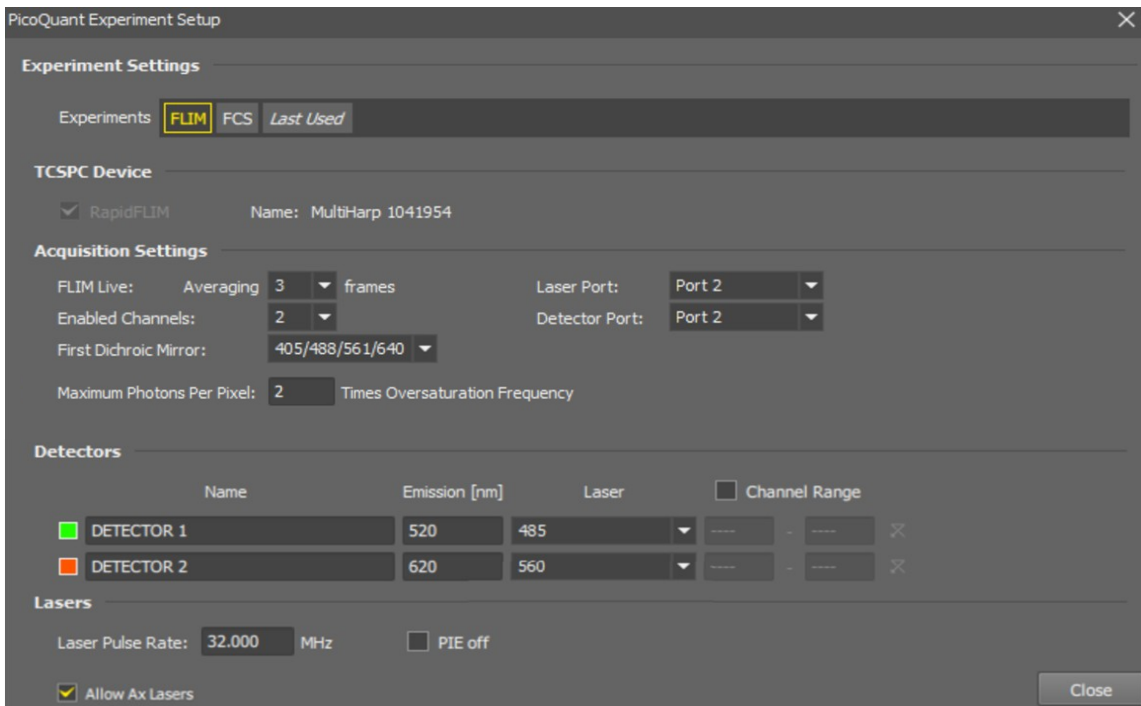

Fig. 3.3 Experiment Setup window
In the **Experimental Setup** several settings can be set (Fig. 3.3):
It is possible to select or deselect the lasers by clicking on one of the Laser wavelength buttons. To set the **Pulse Mode (PIE on/off)** and change the **Pulse Rate** open the experimental setup window (see Fig. 3.3).
In standard setting PIE is on. In this case, lasers of different wavelengths are pulsing not at the same time but one after another. By selecting the desired laser wavelength for each detector (e.g. 485 nm for DETECTOR 1, compare Fig. 3.3), cross talk between channels can be minimized. Only the fluorescence detected in a specific detector channel is displayed which is generated by the selected laser excitation wavelength.
5. For PicoQuant pulsed diode lasers operated with the Sepia II laser driver the **laser repetition rate** (pulse rate) can be set under **experimental setup** (see Fig. 3.3). In case a manual laser driver is used (e.g. PDL-800D), please set the repetition rate at the laser driver manually.